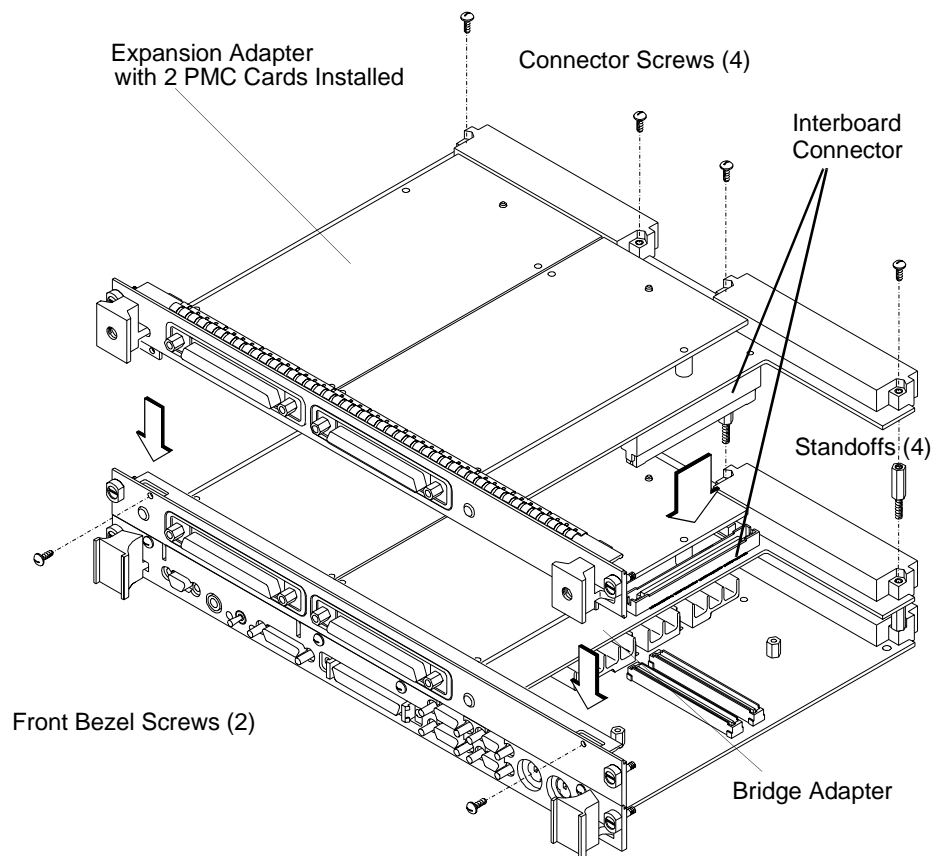

Figure 2-9
- 12 Making sure that the connector and bezels are properly aligned, install the PMC expansion adapter onto the bridge adapter, as shown in Figure 2-9. Ensure that the interboard connector seats properly by applying pressure to the top of the expansion board and to the bottom of the bridge board. You may have to remove memory cards to access the underside of the bridge board. There are two screws that secure the front bezel, four stand-offs between the VME connectors, and four screws to secure the VME connectors.